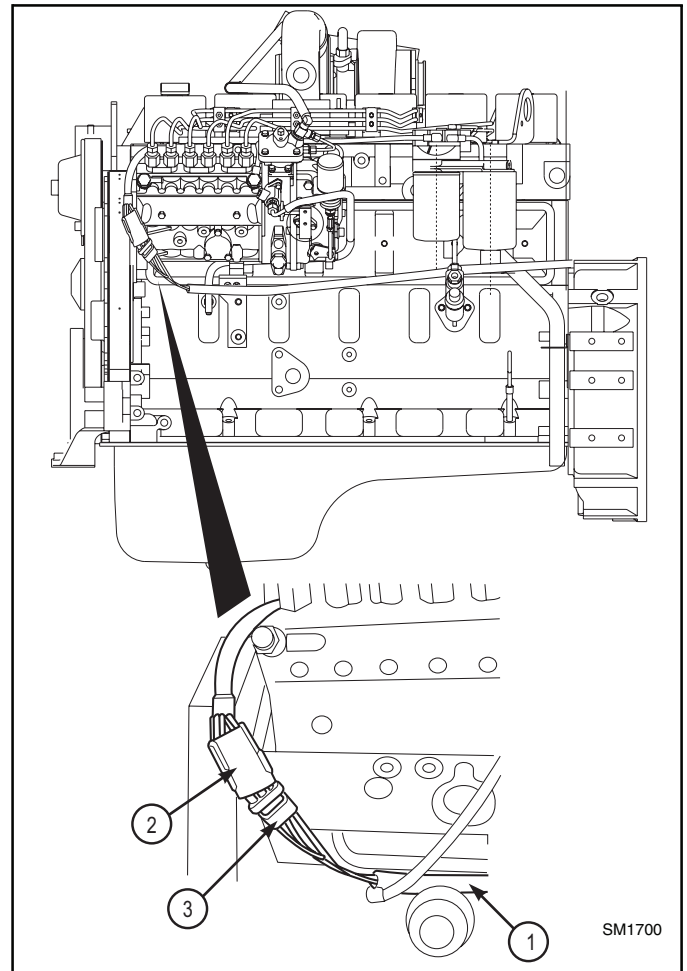

Figure 19
- Route wiring EPA Engine Harness (1) on new engine block. (Figure 19).
- Connect electrical connector (2) to new fuel shut off connector (3). (Figure 19).